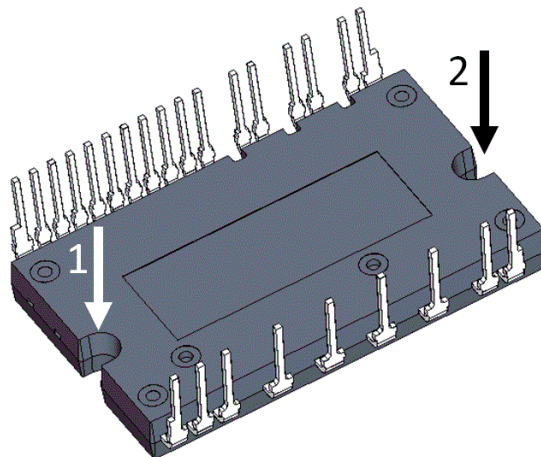

Figure 10. Mounting Screws Torque Order
See Figure 10
9. Avoid one side tightening stress. Figure 10 shows the recommended torque order for mounting screws. Uneven mounting can cause the ceramic substrate of the SPM 45 package to be damaged. The pre-screwing torque is set to 20 ~ 30% of maximum torque rating.